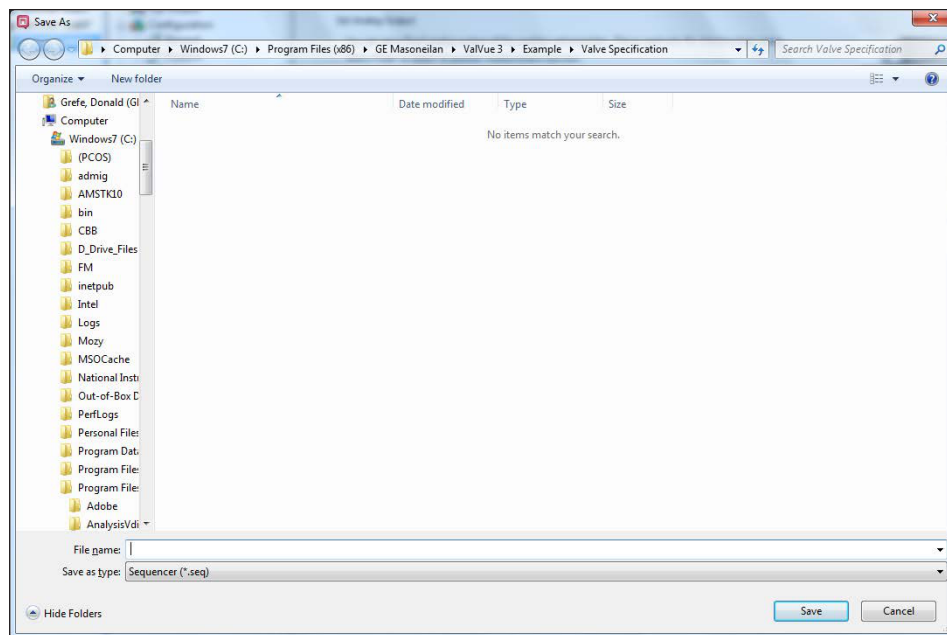

Figure 101 - Save a .seq File
2. Click  and Figure 101 appears.